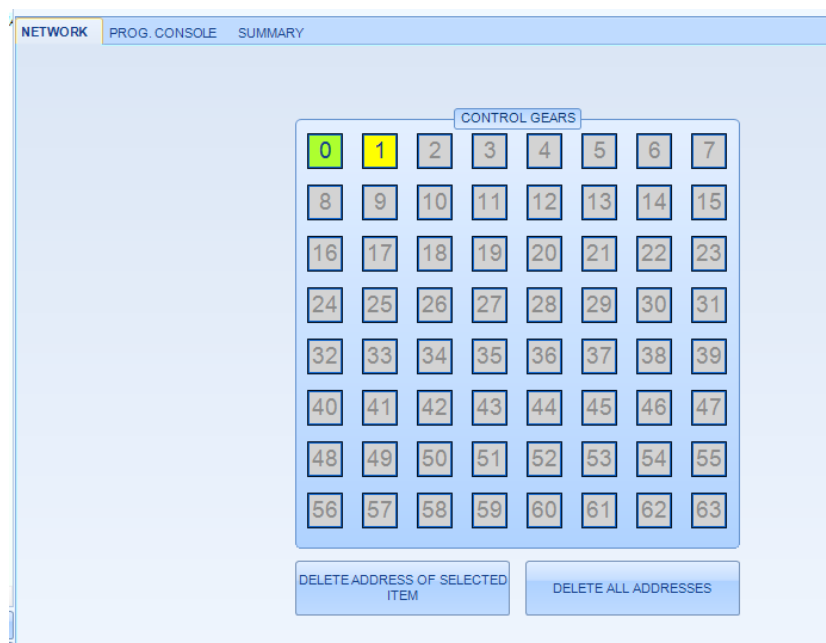

Fig. 82- “NETWORK” tab
- Delete the short address of one device/all devices with the buttons below (Fig. 82).